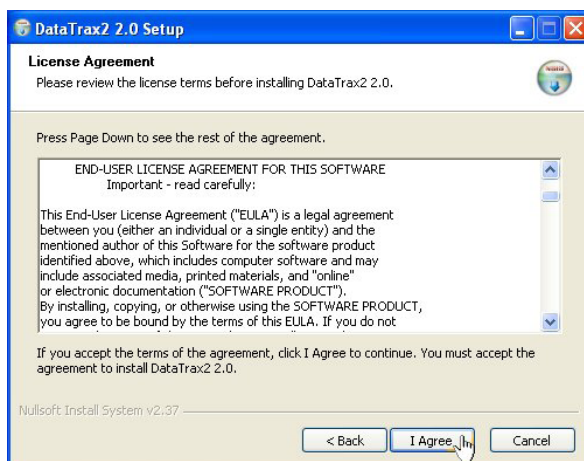

Fig. 20—License Agreement
2. Click the **Next** button. Then, the **License Agreement** appears (Fig. 20).